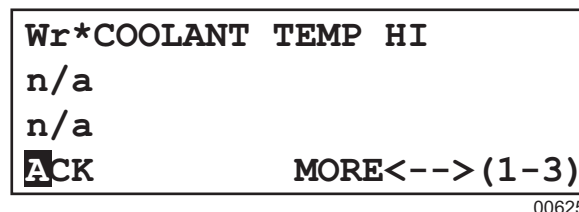

Figure 16 - System Alarm and Warning Page
- H-100 control panel displays an explanatory message on the System Alarm and Warning page (Figure 16)